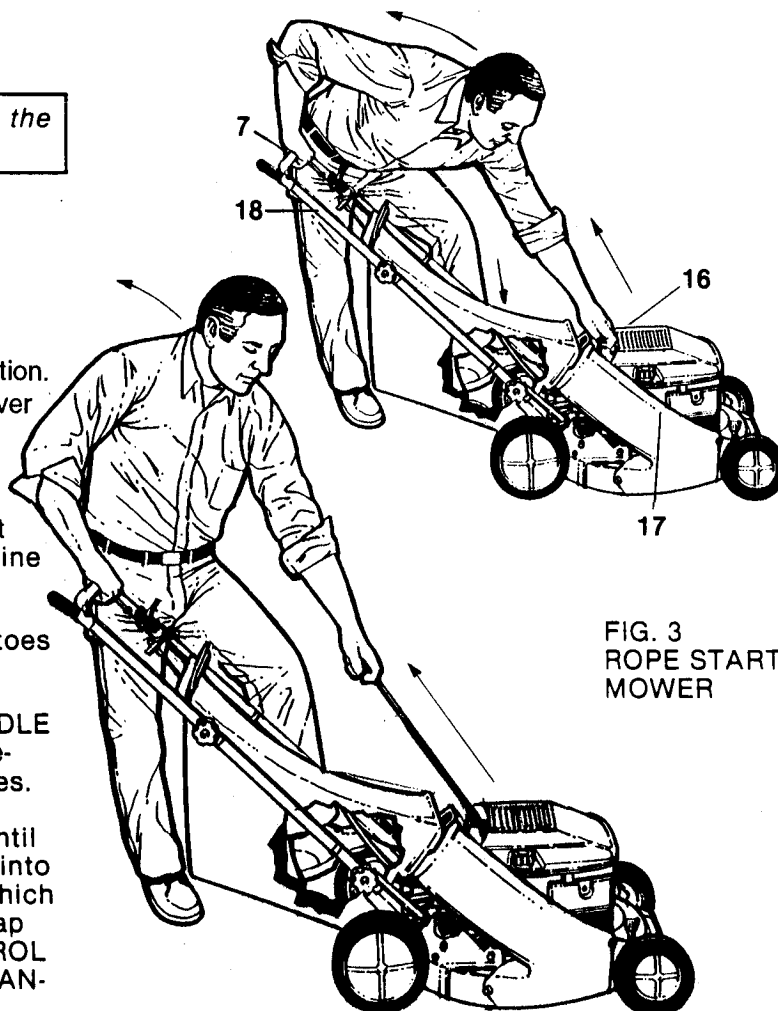

FIG. 3
2. Hold **BLADE CONTROL** (7) firmly against **UPPER HANDLE** (18) - otherwise the engine will not start! Refer to FIG. 3.
4. Bend at waist to reach **ROPE START HANDLE** (16) and straighten up as you pull handle - using back muscles more than arm muscles.